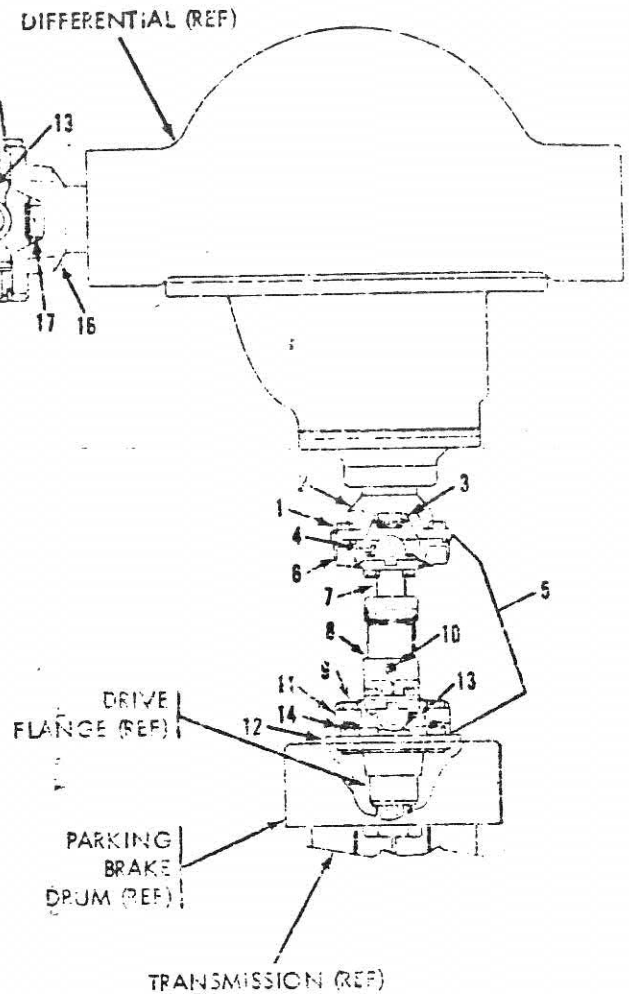

Figure 17-1. Propeller Shafts
a. General (fig. 17-1). The coach drive line system contains three propeller shaft assemblies and axle shafts. Engine torque is transmitted from the transmission output shaft to the input yoke of the differential by a single propeller shaft assembly; two identical propeller shafts transmit the output torque from the differential to the rear wheel axle shafts. This group provides service instructions for the propeller shaft assemblies.
a. General (fig. 17-1). Step-by-step instructions for replacement of the propeller shafts and components are provided in this section. Replacement parts should be procured from those listed in Group 17 of the Parts Catalog.
(1) Remove four bolts and lockwashers attaching the aft end of shaft spider/bearing to the coupling on the parking brake drum; retain bolts.
(2) Support shaft assembly, and remove four bolts inserting through the yoke on the differential into the forward spider/bearing; retain bolts.
(3) Lower and remove shaft assembly.
##### b. Propeller Shaft Inspection (fig. 17-1).